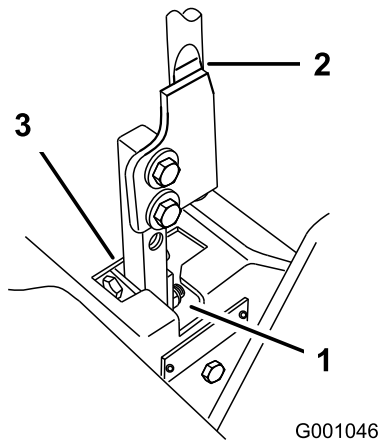

Figure 54
5. Move the lever to the neutral position but not locked (Figure 54).
6. Pull the lever back until the pin (on arm below pivot shaft) contacts the end of the slot (just beginning to put pressure on the spring) (Figure 54).
7. Check where the control lever is relative to notch in console (Figure 54). It should be centered allowing lever to pivot outward to the neutral lock position.